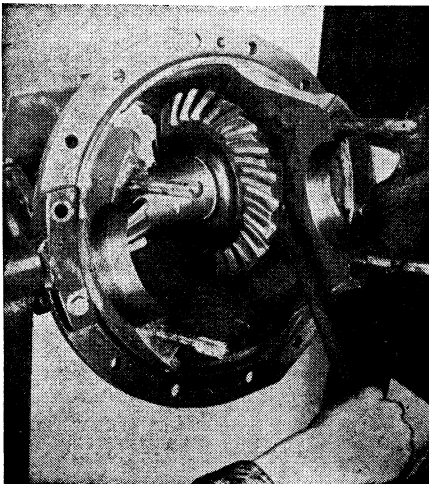

Fig. 58 Force off bearing cage with small pinch bar between back of gear and carrier housing (puller screw holes are also provided)
15. Force off bearing cage with small pinch bar, Fig. 58, between back of gear and carrier housing (puller screw holes are also provided).